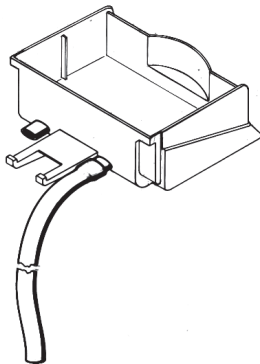

figure 1
- 6 Each drip tray has two diaphragm plugs: if a continuous drain is needed, perforate one of the drain plugs and connect it to a flexible drain line (see figure 1).